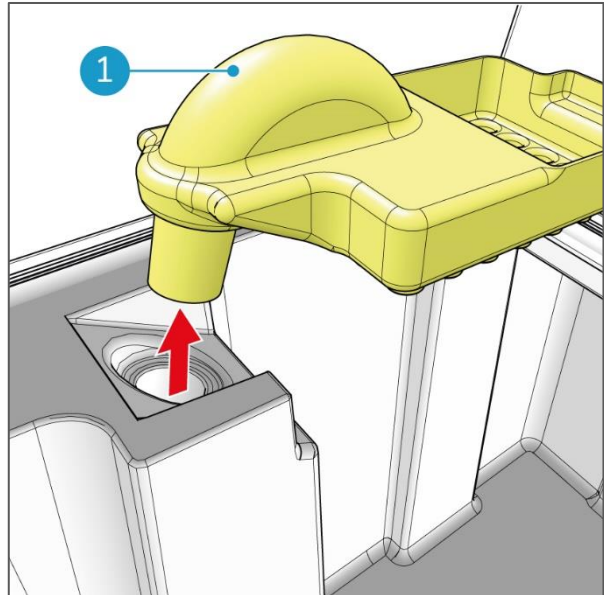

Figure 57
1. Remove the recovery water inlet (Figure 57, pos 1).